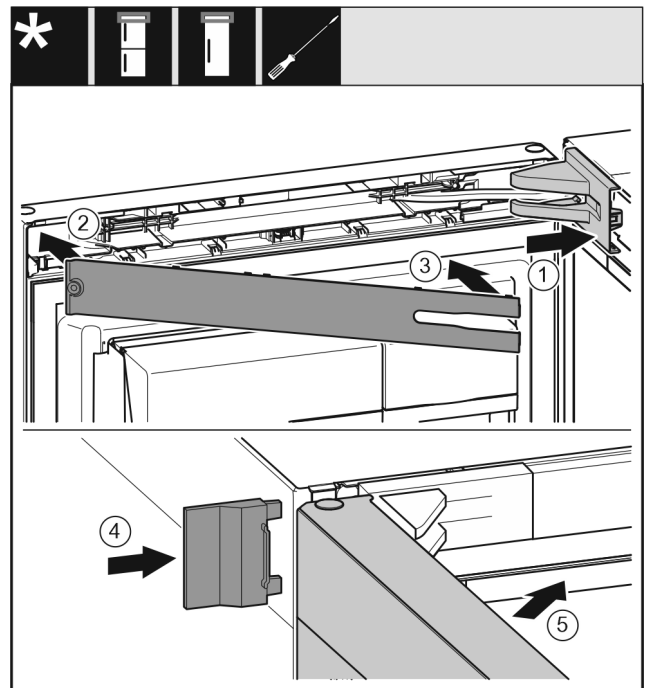

Fig. 24
- ▶ Position the swap bearing block cover *Fig. 24 (1)* and snap it in. You may need to push it carefully apart.
- ▶ Attach the cover *Fig. 24 (2)*.
- ▶ Cover *Fig. 24 (3)*
- ▶ Slide on the outer cover *Fig. 24 (4)*.
- ▶ Close the top door *Fig. 24 (5)*.